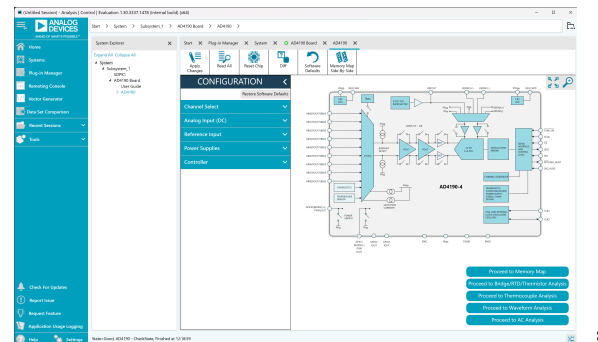

Figure 22. AD4190-4 Chip View
5. Click **Software Defaults** and then click **Apply Changes** to apply the default settings to the AD4190-4 (see Figure 22).